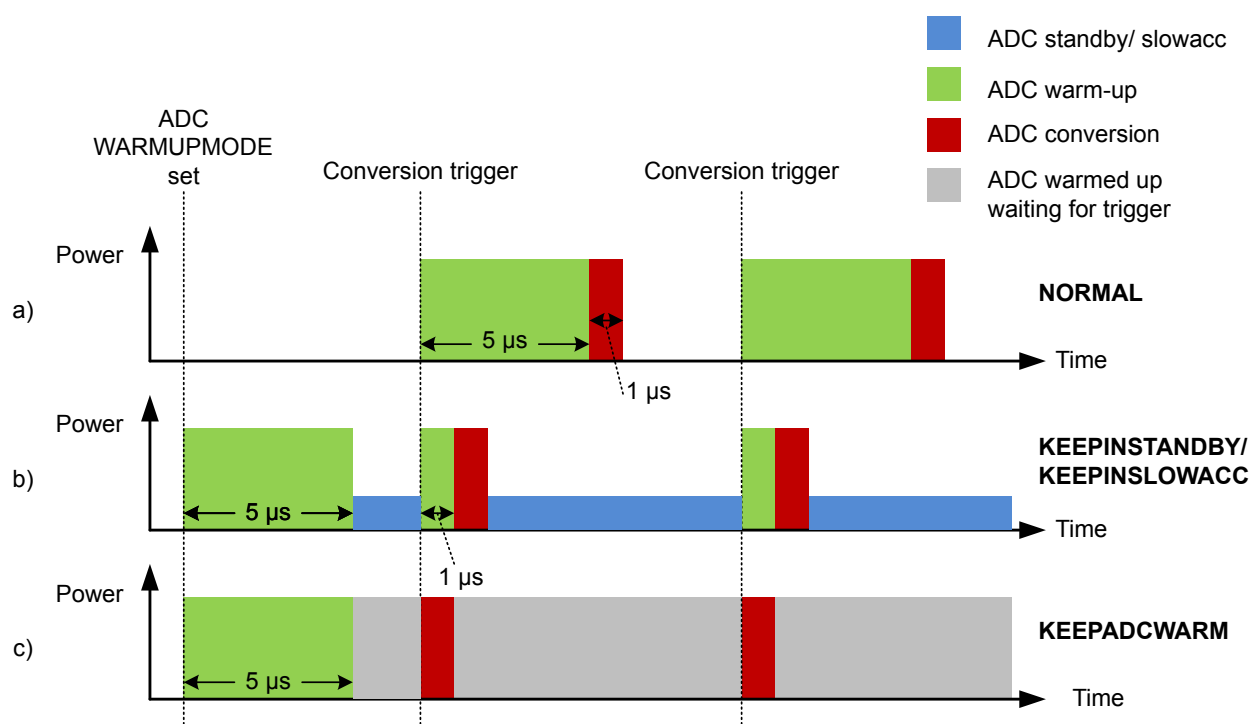

Figure 25.4. ADC Analog Power Consumption With Different WARMUPMODE Settings
Normally, the ADC will be warmed up only when samples are requested and is shut off when there are no more samples waiting. However, if lower latency is needed, configuring the WARMUPMODE field in ADCn_CTRL allows the ADC and/or reference to stay warm between samples, reducing the warm-up time or eliminating it altogether. Figure 25.4 ADC Analog Power Consumption With Different WARMUPMODE Settings on page 862 shows the effects on analog power consumption in scenarios using different WARMUPMODE settings.
- **NORMAL:** This is the lowest power option for general-purpose use and low sampling rates (below 35 ksp/s). The ADC and references are shut off when there are no samples waiting. The ADC does not consume any power when it is shut down. A 5 μ s warmup time will be initiated prior to every conversion. Figure a in Figure 25.4 ADC Analog Power Consumption With Different WARMUPMODE Settings on page 862 shows this mode.
- **KEEPINSTANDBY:** This mode is suitable for infrequent sampling of lower impedance inputs, and is the lowest power option for sampling rates between about 35 and 125 ksp/s. It may also be useful for lower sampling rates where latency is important. The reference selected for scan mode is kept warm, but the ADC is powered down. The ADC will initiate a 1 μ s warmup period before a conversion begins. Because the reference is kept warm, the ADC will consume a small amount of standby current when it is not converting. Figure b in Figure 25.4 ADC Analog Power Consumption With Different WARMUPMODE Settings on page 862 shows this mode.
- **KEEPADCWARM:** This mode provides the lowest latency and allows for maximum sampling rates. The ADC and reference circuitry remain powered on even when conversions are not in progress. Figure c in Figure 25.4 ADC Analog Power Consumption With Different WARMUPMODE Settings on page 862 shows this mode. This mode consumes the most power, but as soon as a trigger event occurs, the acquisition and conversion begin with no warm-up time. Note that if KEEPADCWARM mode is set and HFXO is selected as the ADC clock source, the HFXO will remain on in EM2.